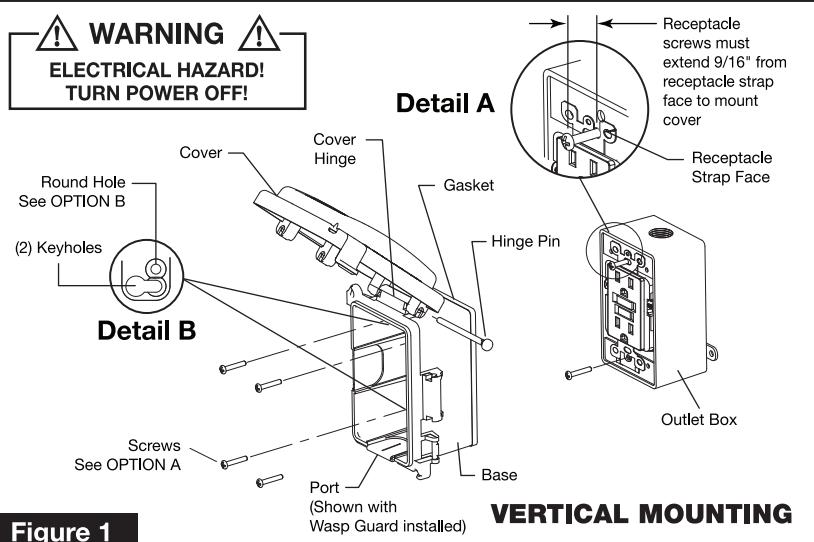
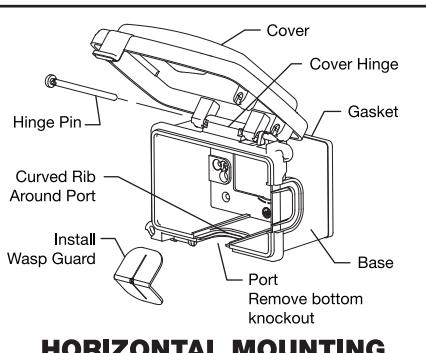

Figure 1
Figure 2
1. INSTALL WASP GUARD. Determine desired mounting (Figures 1 & 2). Remove (break-out) knockout from bottom PORT of base using pliers. Remove protective backing from adhesive side of rubber WASP GUARD. Position and place adhesive side on outside of curved rib in open PORT. Carefully fold WASP GUARD along top surface and secure to inside of curved rib in open PORT (see Figure 1, 2 & 3).
Vertical Mounting (Figure 1) or Horizontal Mounting (Figure 2).
NOTE: Position BASE with COVER HINGE on top and open PORT on bottom. Loosen receptacle screws 9/16" from receptacle strap (see Figure 1, Detail A). Place BASE keyholes over receptacle screws (Figure 1, Detail B). Make certain gasket overlaps box edges and tighten screws to secure BASE.
Verify receptacle is centered and securely fastened to box. Drill out (4) pre-marked holes in BASE using 5/32" diameter drill (Figure 4). Make certain gasket overlaps box edges. Insert (4) furnished 3/4" long countersink head screws and tighten to secure BASE (see Figure 1) (see steps 3 & 4).
Verify GFCI is securely fastened to box. Insert (2) screws (furnished) through top and bottom ROUND holes (Figure 1, Detail B) in BASE into threaded holes in GFCI. Make certain gasket overlaps box edges and tighten screws to secure BASE (see steps 3 & 4).